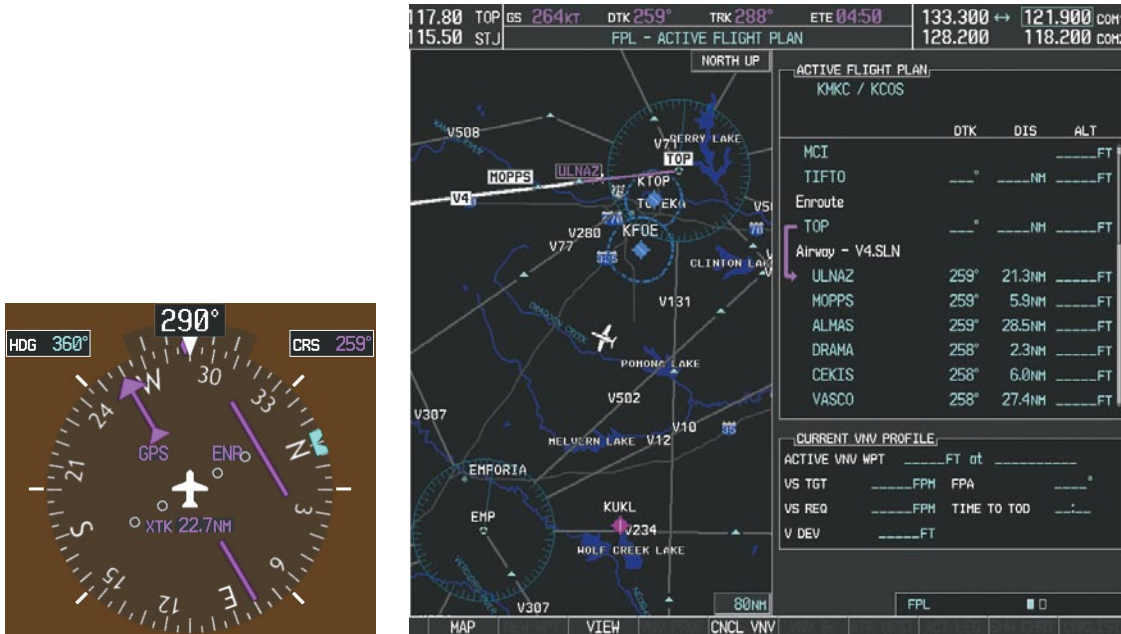

Figure 5-115 V4 Now Active Leg
- d) Verify the displayed leg is the desired leg and press the **ENT** Key. Note in Figure 5-115, the magenta arrow in the flight plan window and magenta line on the map indicating V4 is now the active flight plan leg. Note the phase of flight remained in Terminal (TERM) mode up to this point because a departure leg was active. Since a leg after the departure is now active, the current CDI flight phase is ENR (Enroute) and CDI scaling has changed to 2.0 nm.